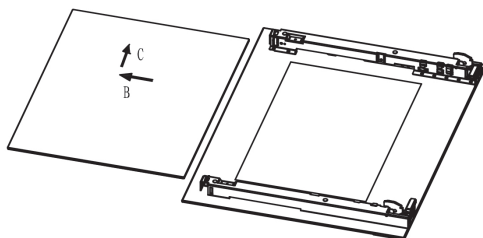

Fig.4
4. Take out middle glass. (Fig.4) the door again.